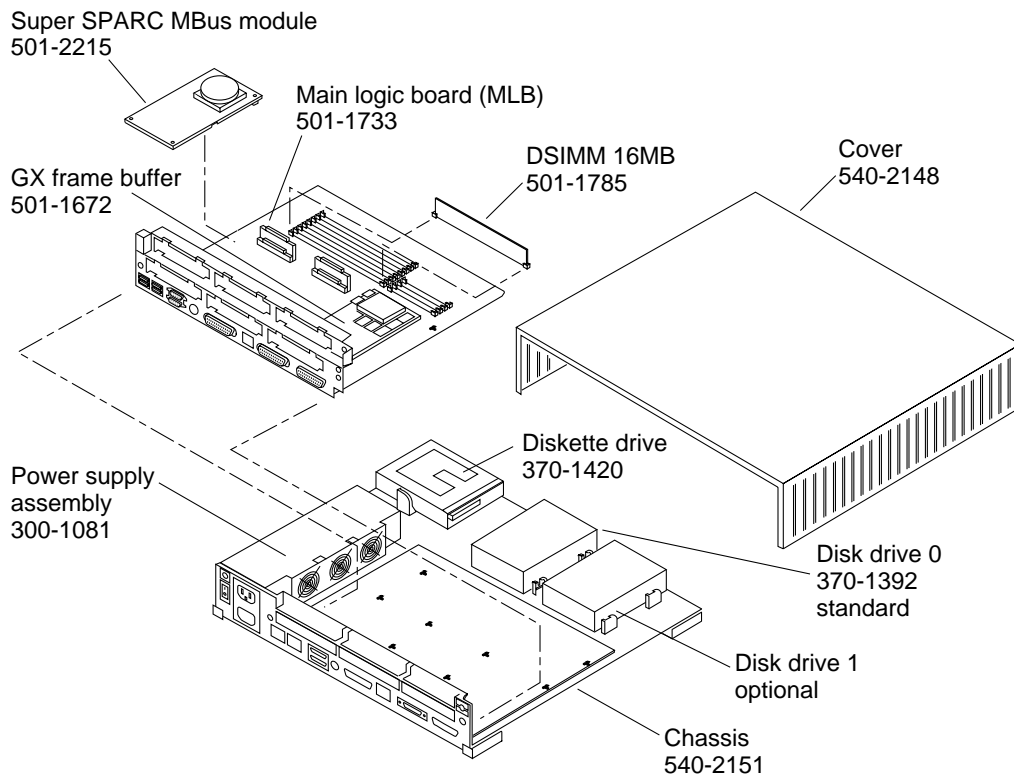
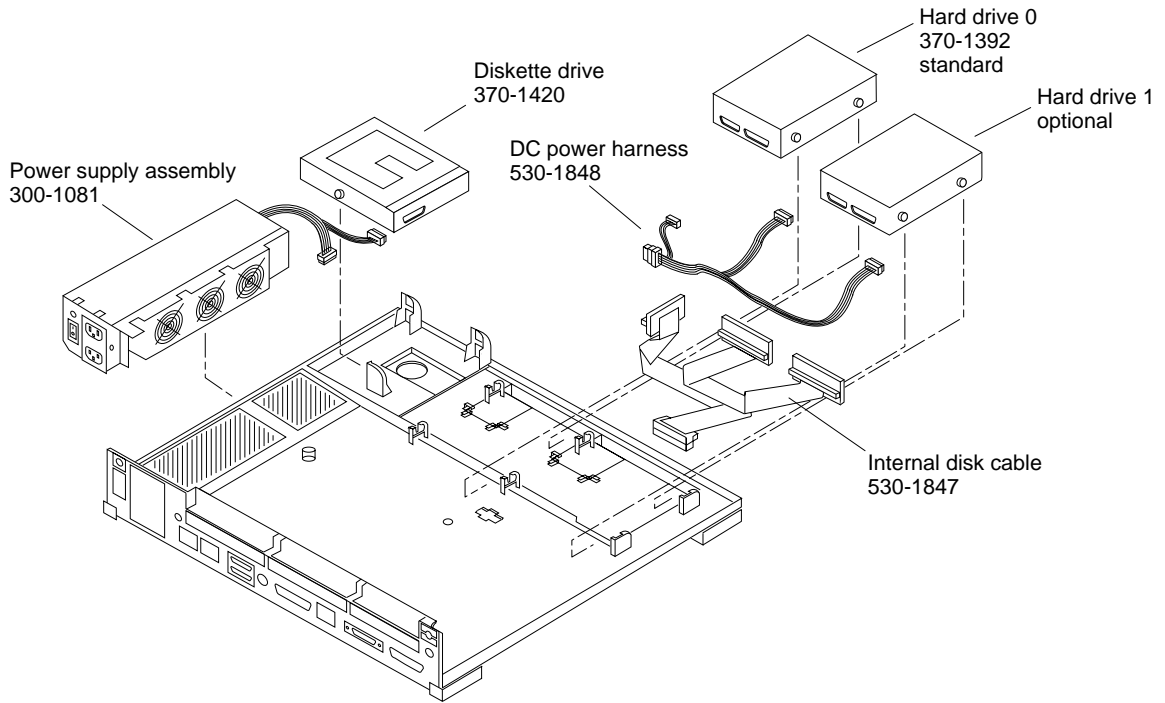

FIGURE 1-6 Exploded View of the SPARCstation 10 System—MLB
FIGURE 1-7 Exploded View of the SPARCstation 10 System
- FIGURE 1-6 and FIGURE 1-7 are exploded views of the SPARCstation 10 assembly.